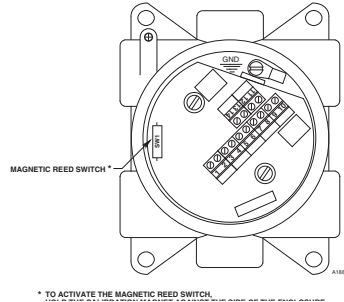

Figure 5-1—
*Some calibration procedures require the operator to activate the reed switch located on a circuit board inside the junction box. See Figure 5-1 for reed switch location. To activate the switch, hold the calibration magnet against the side of the junction box near the switch location approximately one inch above the mounting surface. (Do not open the junction box.) Hold the calibration*